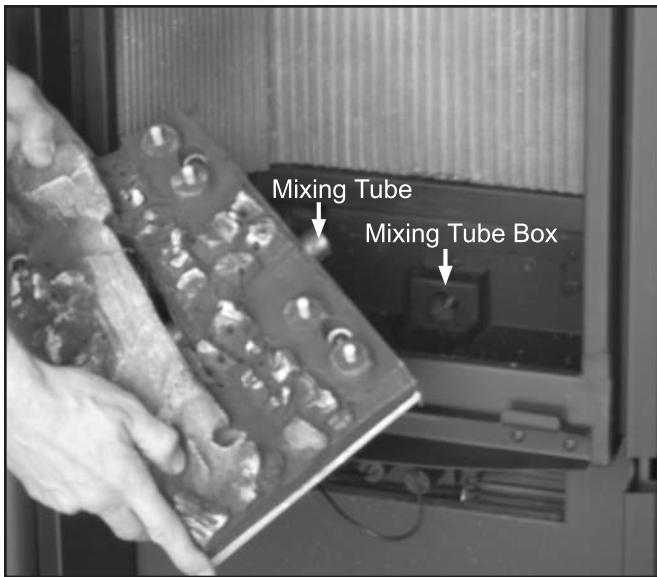

Figure 8: Install the Log Set Burner to the Firebox.
1. Insert the mixing tube into the mixing tube box (refer to Figure 8 or 9).